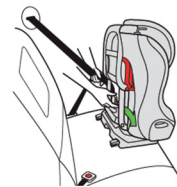

Figure 84
- Route vehicle belt through the Forward-Facing Belt Path, taking care not to put vehicle belt between Harness and back of seat, and buckle vehicle belt, as shown in Figure 84.